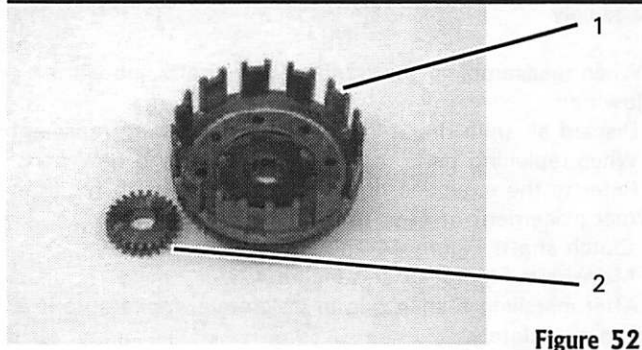

Figure 52
2. Check the friction plate slots in the clutch drum (1, Figure 52) for steps, cracks or severe wear.
6. Inspect the primary drive gear assembly (2, Figure 52 and Figure 54) for chipped, worn or broken gear teeth. If any damage is found, the primary drive assembly, which consists of the primary drive gear and clutch drum, must be replaced at the same time.